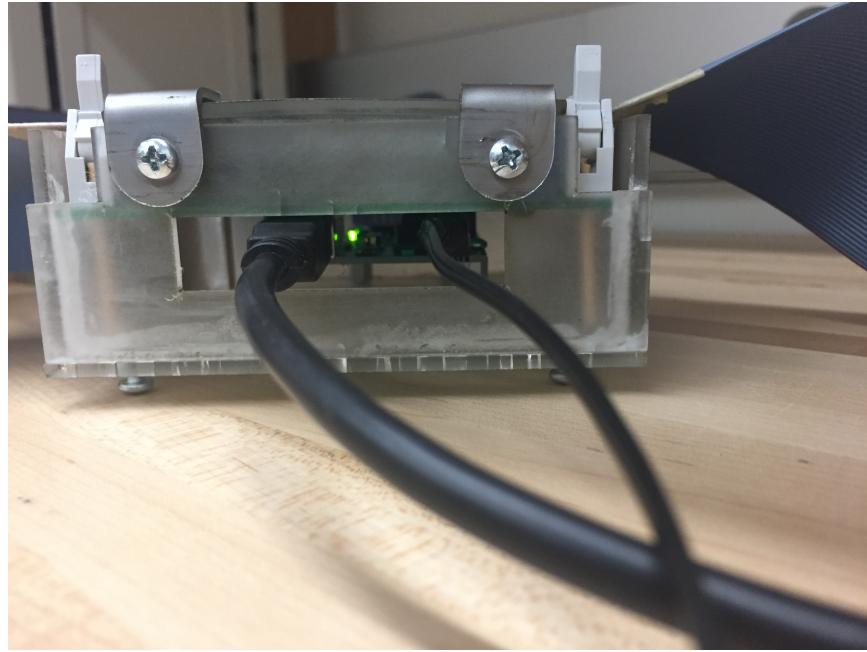

Figure 3: Plugged in Resistance Meter: USB cable on left, power supply cable on right.
1. Plug USB cable: USB B into “Resistance Meter v1.0” box Arduino Uno USB serial port and USB A into computer USB port. [Figure 3]
2. Plug power supply (9V) into Arduino power port and outlet. [Figure 3]
4. Repeat (3) for “Left” connector. Note that the left cable has a given orientation to be plugged in and is labeled (“Left Box” and “Left Connector”).